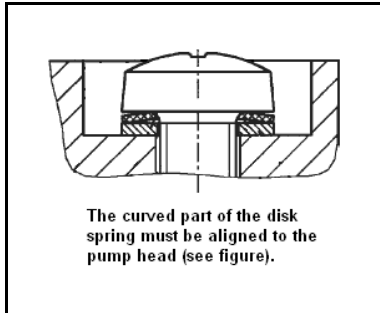

Fig. 6: Orientation disk spring
1. For one pump head: Undo the screw (7).
2. Separate the head plate (4) from intermediate plate (1).
3. Remove the valve plates/sealings (2) from the intermediate plate (1).
4. Check that the valve seats, intermediate plate (1) and the head plate (4) are clean; if scratches or distortion are evident on these parts they should be replaced.
5. Lay the new valve plates/sealings (2) in the recesses in the intermediate plate (1). The valve plates/sealings for suction and pressure sides are identical, as are upper and lower sides of the valve plates/sealings.
6. Check that the valve plates/sealings (2) are not deformed by moving them gently sideways in their recesses.
7. Place the head plate (4) on the intermediate plate (1), in the position indicated by the marking (M).
8. Check that the head plate (4) is centred by moving it gently sideways.
9. Join the head plate (4) and the intermediate plate (1): Tighten the screw (7) (tightening torque: 70 Ncm).
**i** For placement of disk spring (15) and washer (16) and for orientation of disk spring see fig. 6.